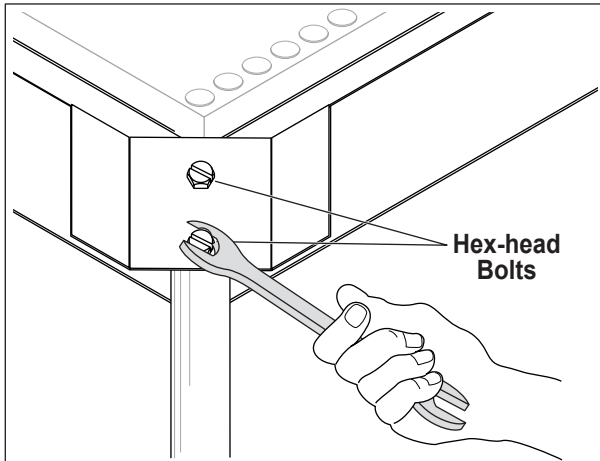

Figure 5
2. Install two (2) hex head bolts per leg assembly to secure broiler body onto leg stand (Fig. 5). (Apply lock-tight to bolt threads.)